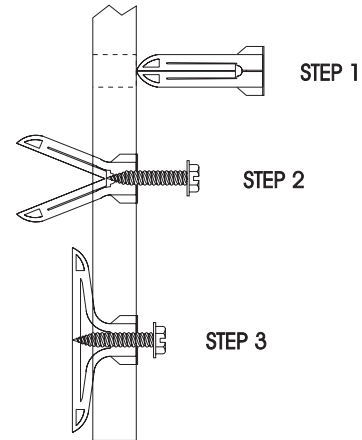

Figure 3
3. After locating mounting holes, drill two (2) 5/16" diameter holes into wall. Insert the two (2) plastic expansion anchors provided in blower kit into holes. Insert two (2) #10 x 1 1/2" screws provided in blower kit into plastic expansion anchors. Do not completely tighten screwhead to plastic expansion anchors, leave a 7/16" gap between screwheads and plastic expansion anchors. Refer to Figure 3.